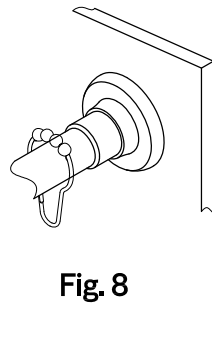

Fig. 8
Step 7. Slide shower rings onto shower rod by putting the rod through the opening of the rings (Fig 8).